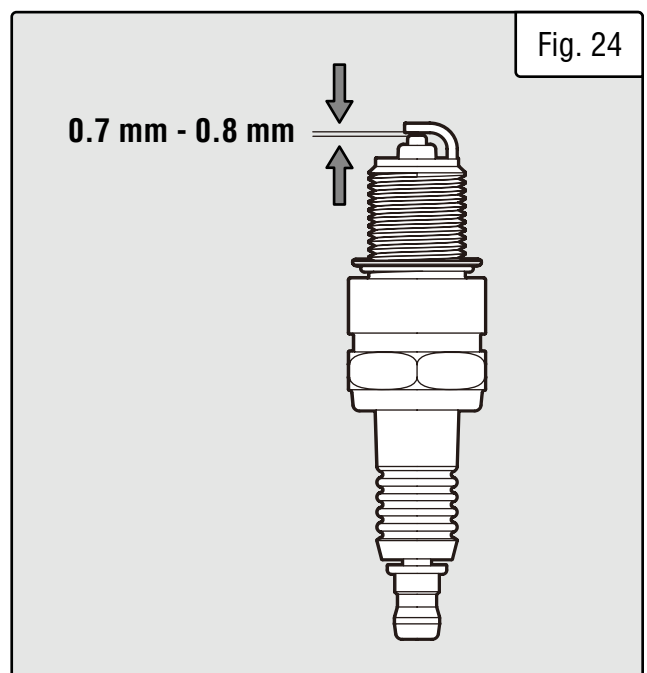

Fig. 24
5. Measure the plug gap with a spark plug gap gauge. The gap should be 0.028 in. - 0.031 in. (0.7mm - 0.8mm) (Fig. 24). Carefully adjust the gap if necessary.